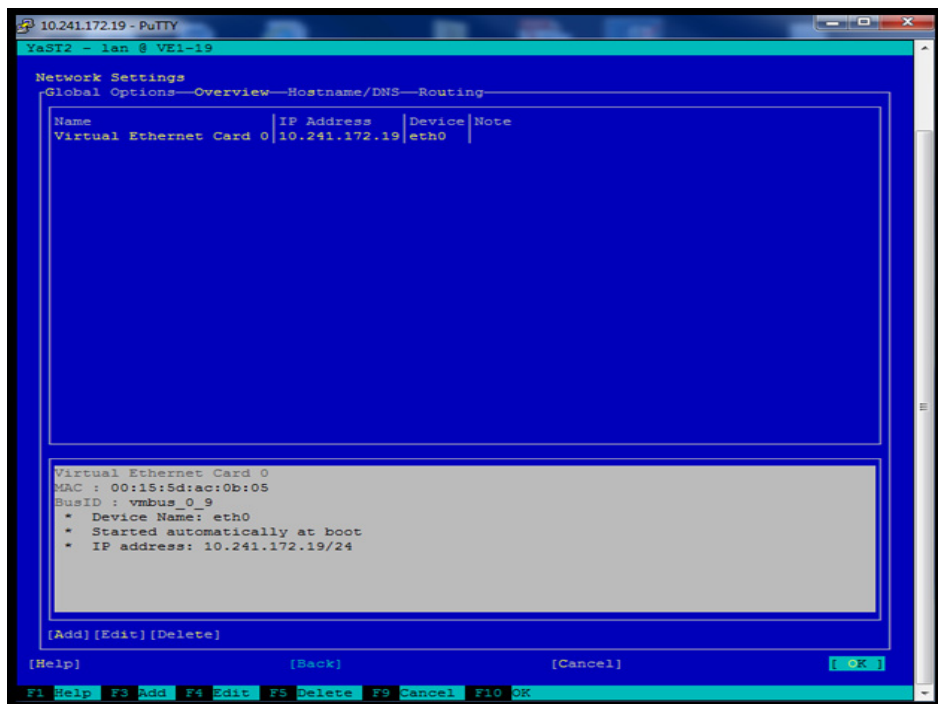

Figure 171 Network Settings screen
5. Press **Enter**. The Network Settings screen appears, as shown in Figure 171 on page 130.